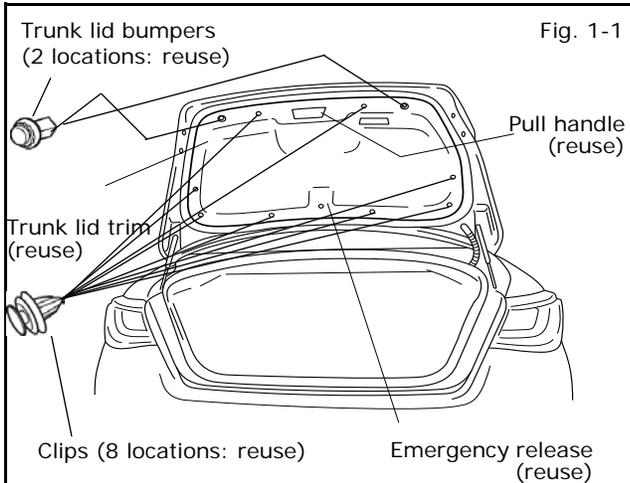

Fig. 1-1
- 1) Open vehicle trunk lid and find the trunk lid bumper assemblies (RH/LH: 1 location each). See Fig.1-1.
- 3) Remove inner trim clips (8 locations; reuse), trunk lid bumper assembly (2 locations; reuse), Emergency release (1 location; reuse) and detach pull handle (1 location; reuse) from trunk lid with a clip remover. See Fig.1-1.